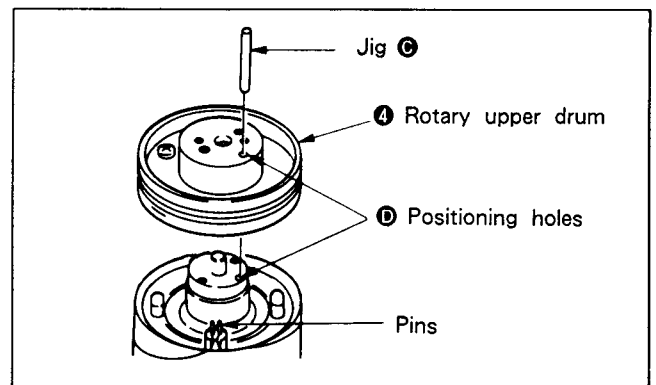

Fig. 7-48.
- 2) Use jig **C** (Ref. No. J-10) to line up rotary upper drum **4** and the positioning hole **D**, and lightly insert the rotary upper drum. At this time, confirm that the pins stick up the hole of rotary upper drum board. Fix with tweezers if the pins catch. (See Fig. 7-48.)